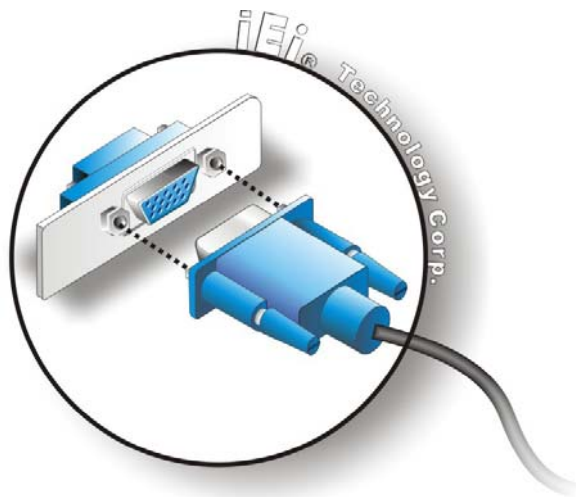

Figure 3-23: VGA Connector
- Step 3: Insert the VGA connector** Once the connectors are properly aligned with the insert the male connector from the VGA screen into the female connector on the AFL-915. See **Figure 3-23**.